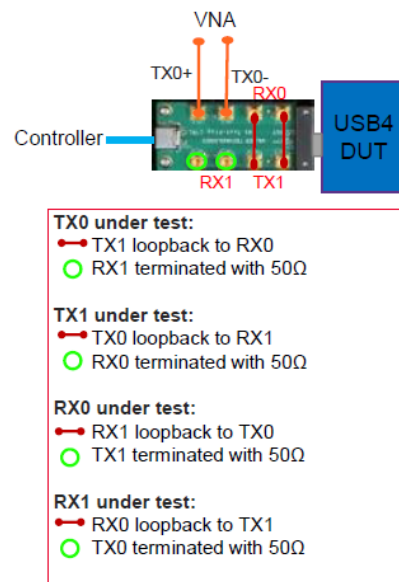

Figure 164 SMP test fixture - Tx/Rx lane switching
- 8 In case of SMP test fixture, Tx/Rx lane under test can be switched as shown in Figure 164.